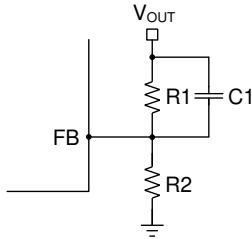

Figure 5: Feedback Network
The external resistor divider sets  $V_{OUT}$ . The feedback resistor (R1) also sets the feedback (FB) loop bandwidth with the internal compensation. Figure 5 shows the feedback network.